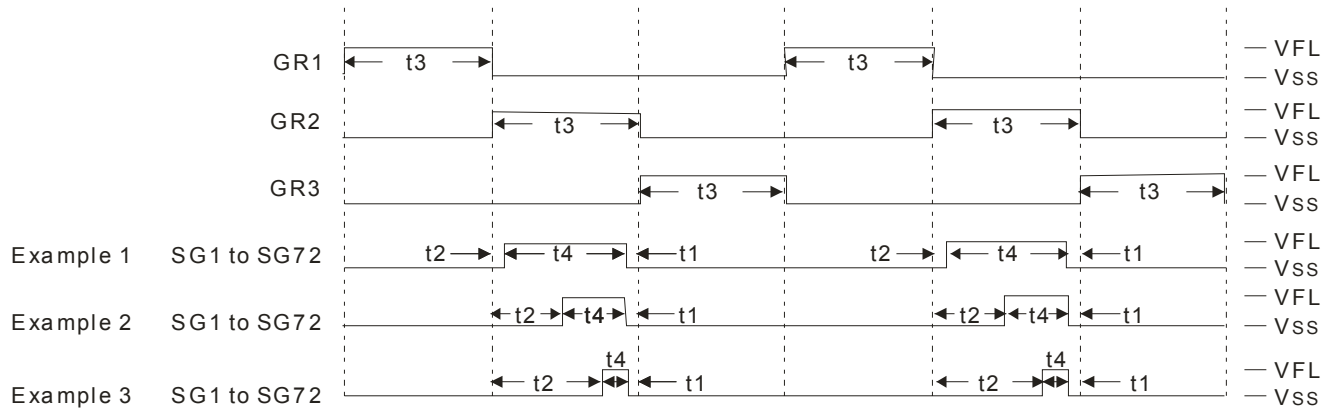

Figure 7
- Figure 7 shows the case where the display data is set up so that the segment outputs SG1 to SG56 output the VSS level with the same timing as the GR1 and GR3 digit outputs, and output the VFL level with the same timing as the GR2 digit output. Here, the segments corresponding to GR2 will be turned on. The relationship between $t3$ and the oscillator frequency f_{osc} in this case is $t3=2048/f_{osc}$.